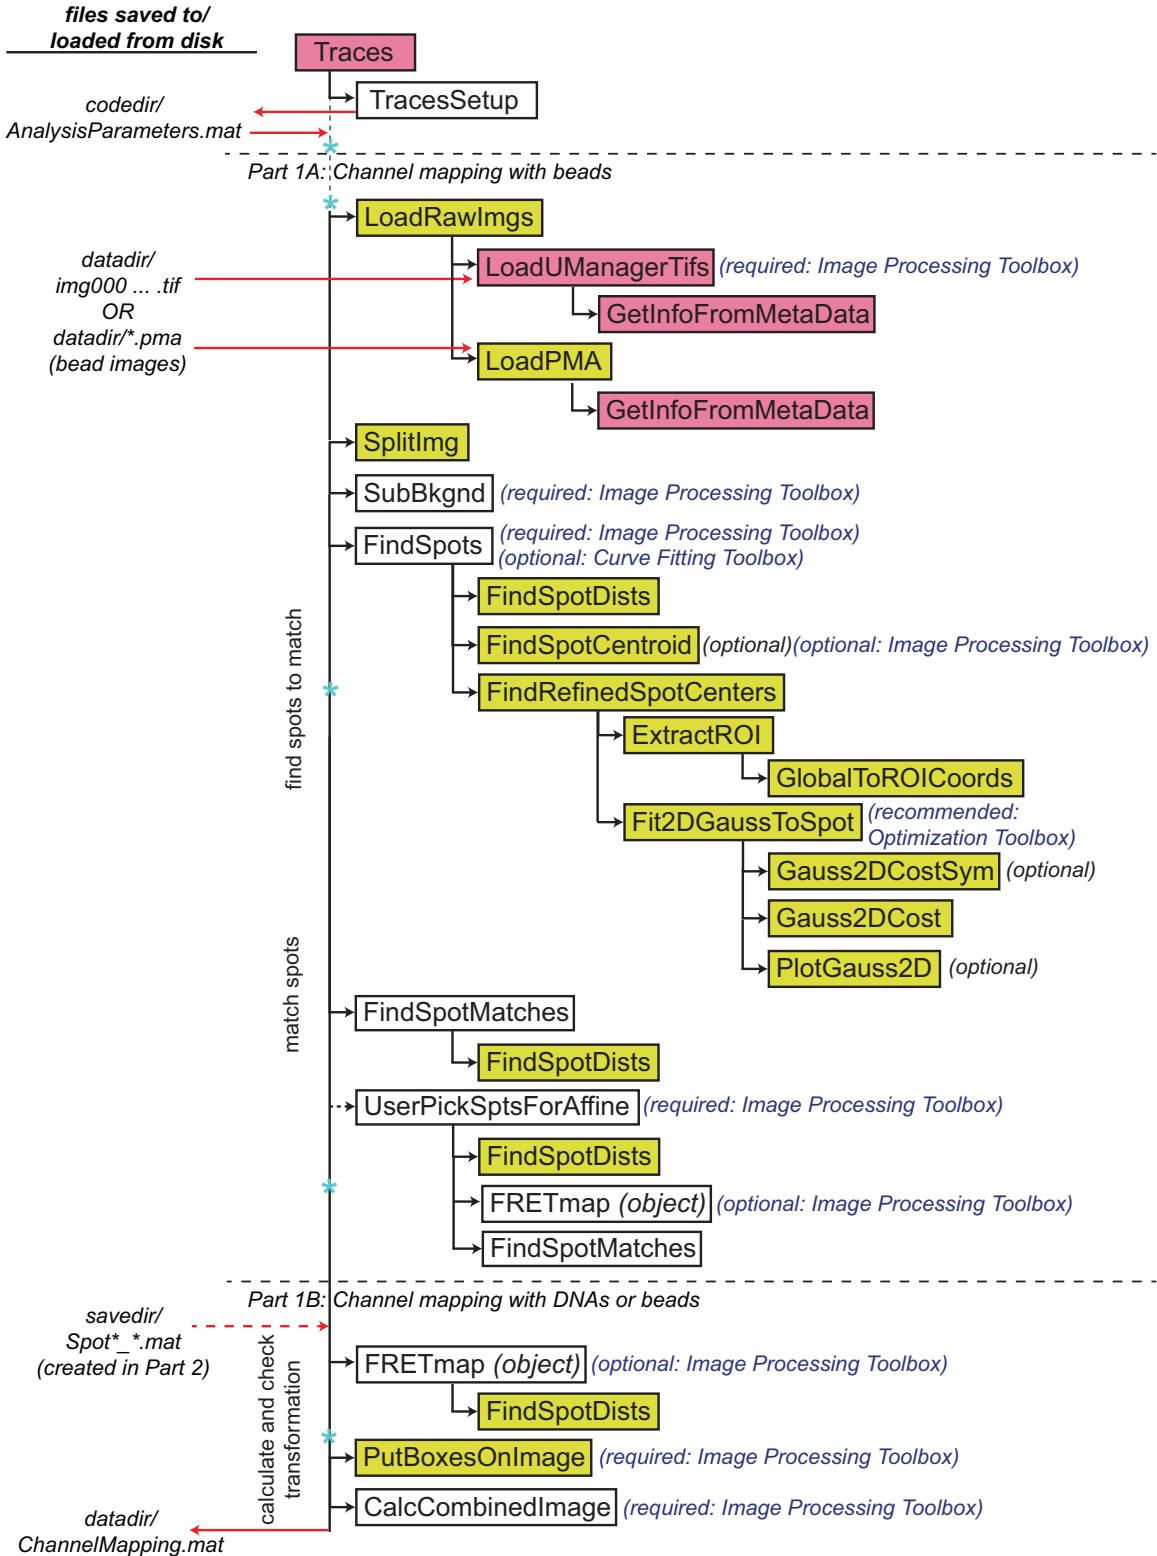

Figure 3: Call graph of the functions for calculating a channel mapping.
- The function LoadRawImg assumes the file and directory structure created by Micro-Manager (summarized in Fig. 1); if you use something other than Micro-Manager to acquire data, and want to use this suite out-of-the-box, you will have to reorganize your data into the directory structure that LoadRawImg and Traces recognize. Alternatively, you can modify LoadRawImg and its dependences (see Figs. 3 and 4 below), and some sections of the main Traces.m function, to recognize your data structure (those are probably the only two sets of functions you’ll have to modify).
Details of how to run each module, and of what each module does, are discussed in the next section. Figures 3 and 4 show call graphs that diagram the functions that perform each module, with required or optional Matlab toolboxes noted to the right of each function. Functions in colored boxes are “tools” that are or could be called by multiple functions; pink are highly specific to our microscope setup (and, along with the functions in white boxes, can be found in the “core” subdirectory), yellow should be more general (and can be found in the “tools” subdirectory). Blue asterisks indicate interactive sections requiring user input; red arrows indicate files saved to or loaded from disk (dashed lines indicate optional pathways based on user input).